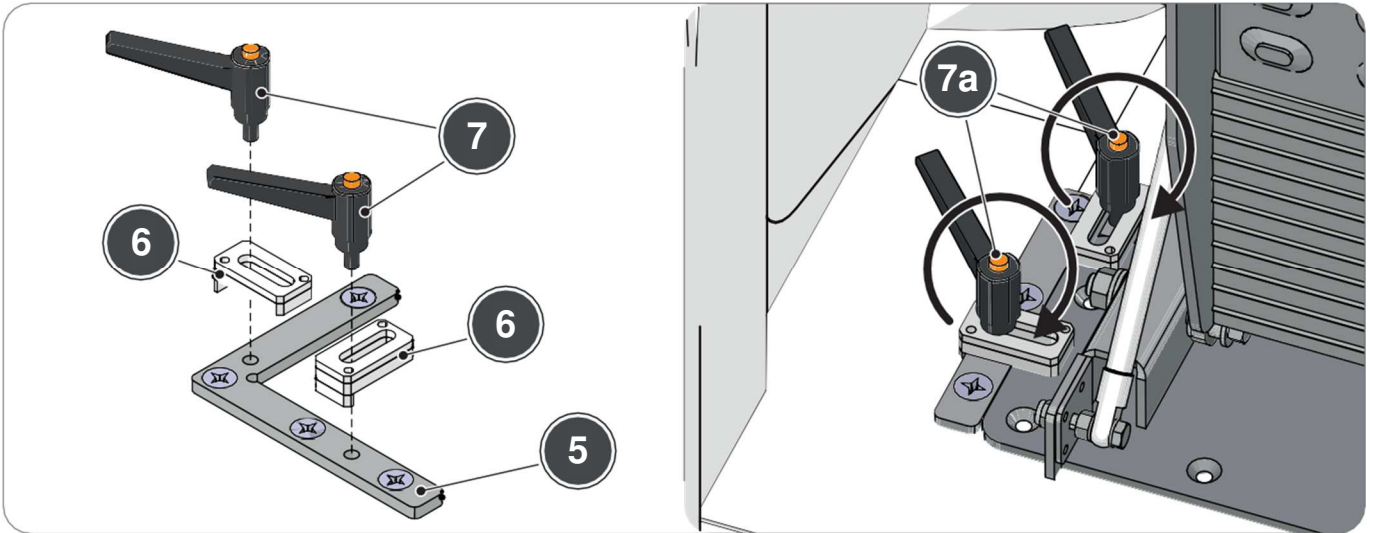

Fig. 2.22
WARNING To replace the ramp, put the ramp's baseplate back into position as shown in (Fig.2.22). Make sure the catches (6) are in contact with the baseplate and tighten the handles (7).